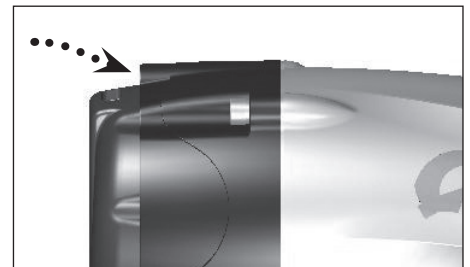

Figure 21 - Bubble Level
**BUBBLE LEVEL (See Figure 21)**